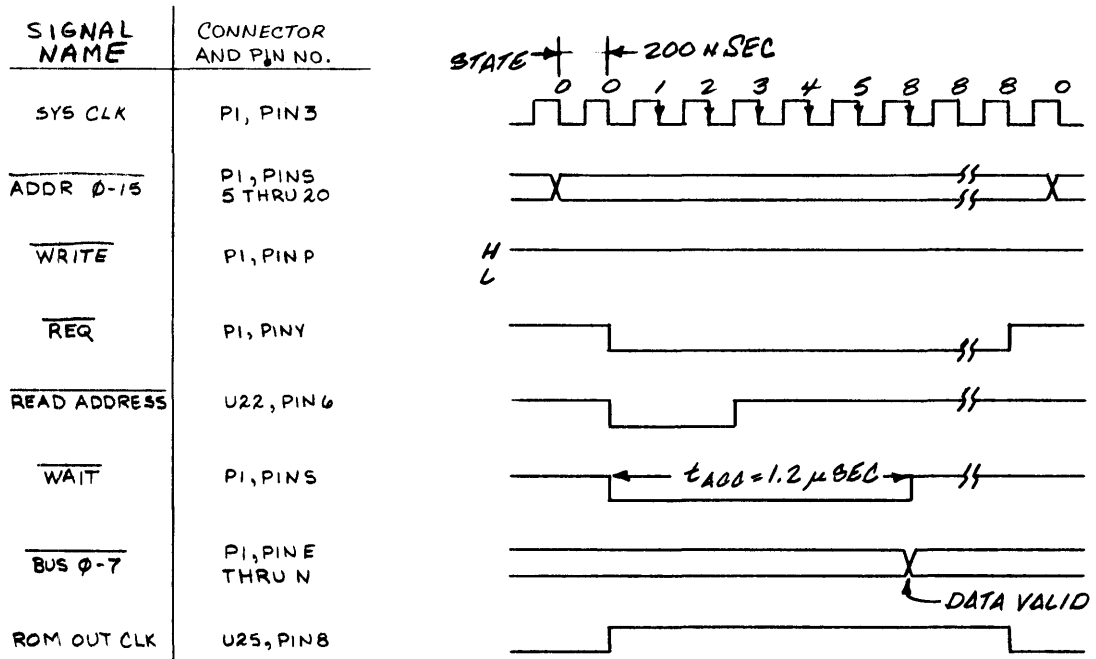
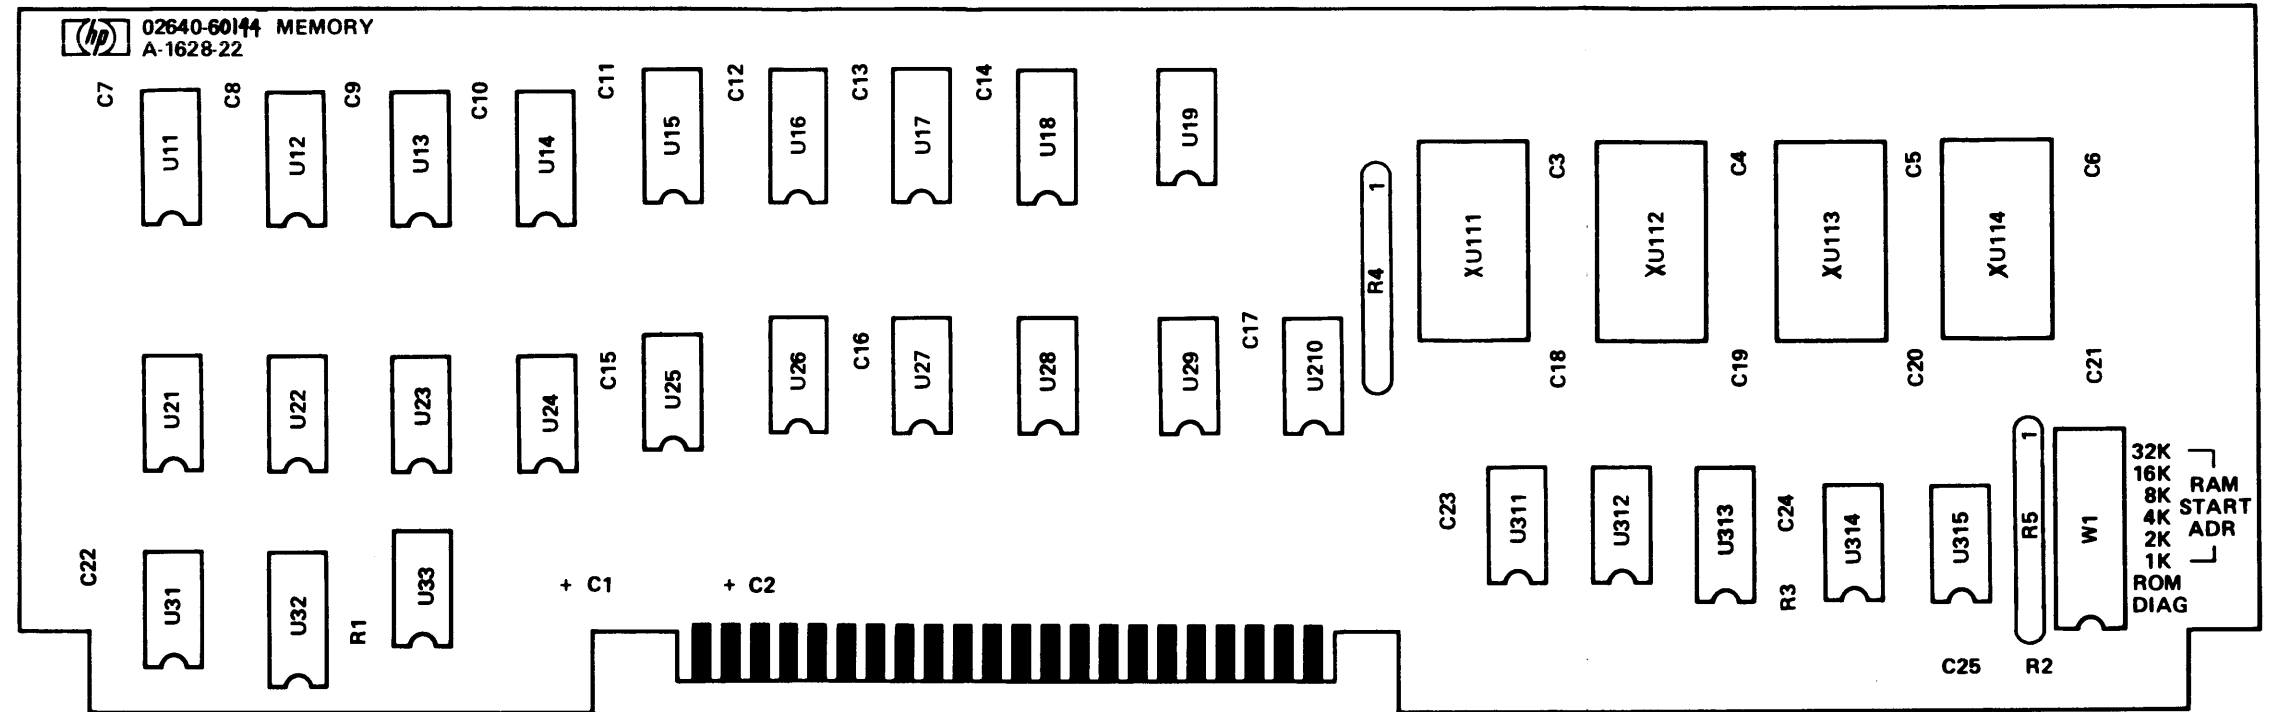

Figure 3
Figure 6
3.0 FUNCTIONAL DESCRIPTION. Refer to the block diagram (figure 1), schematic diagram (figure 2), timing diagrams (figures 3, 4, and 5), component location diagram (figure 6), and parts list (02640-60144) located in the appendix.
3.5.2 ROM READ. The SYS CLK, I/O, REQ, WRITE, and ROM SEL lines enable the 93L10 counter (U32) and asserts the READ ADDRESS, WAIT, and ROM OUT CLK signals. The counter advances to the states labeled in the timing diagram in figure 3 on the clock edges indicated by arrows. State 2 and the positive half of the SYS CLK drops READ ADDRESS. On the sixth